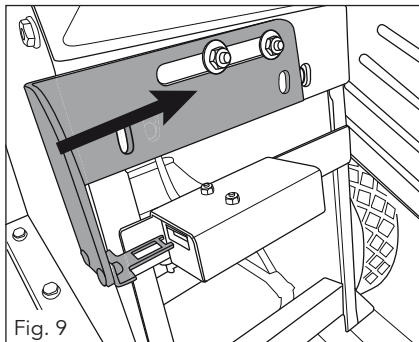

Fig. 9
2. Slide the mounting bracket on the underside of the hopper (4) so that the two holes align with those in the frame (fig. 9).